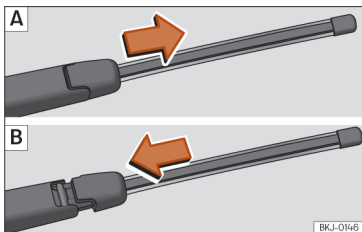

Fig. 43 Removing and fitting the rear window wiper blade.
- Slide the blade adapter in the direction of the arrow and remove the blade » » » Fig. 43 [A].
- Fit a new blade, **of the same length and type**, as shown in » » » Fig. 43 [B] and slide the adapter until it clicks into place.